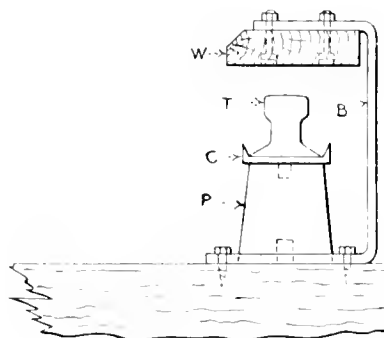

FIG. 1. THIRD RAIL CONSTRUCTION ON TOP CONTACT.
A.—This construction is shown by Fig. 1. On every six to eight ties—which is longer than the regular tie and extending to the right, is bolted the bracket B. This bracket is bolted near one edge so as to give sufficient room for the porcelain insulator P, this insulator being mounted on a pin to hold it in position. On top of the insulator is placed a cap C to form a rest for the third rail T. The bracket B is used to carry the protection board W. The third rail shoe on the locomotive runs along on the top of the third rail and underneath the protection board.